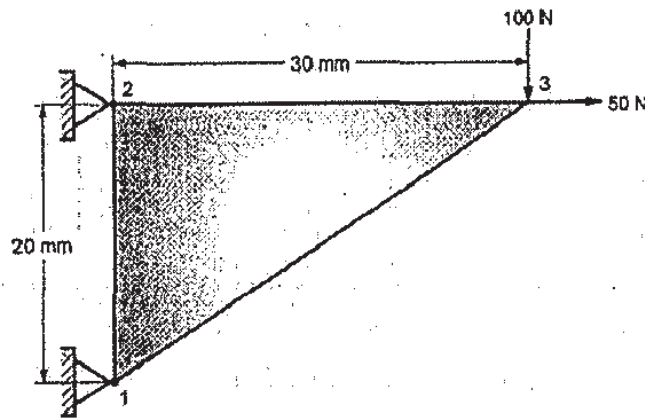

Fig.6
- Q6)** A triangular plate subjected to various loads as shown in fig.6. The modulus of elasticity is $70 \times 10^3 \text{ N/mm}^2$, the poisson's ratio is 0.3 and thickness plate is 10 mm. Model the plate with CST element and determine Element stiffness matrix and nodal displacements. [17]